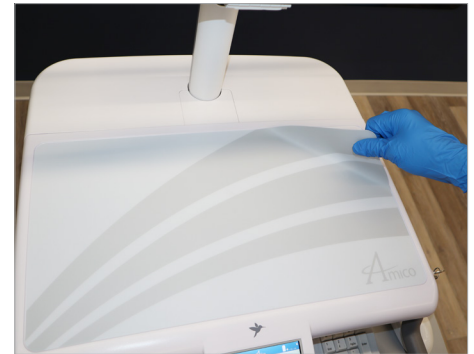

Figure 9
9. Remove existing **WORKSURFACE LABEL** and clean excessive adhesive (if any) on the **WORKSURFACE** (Figure 9).